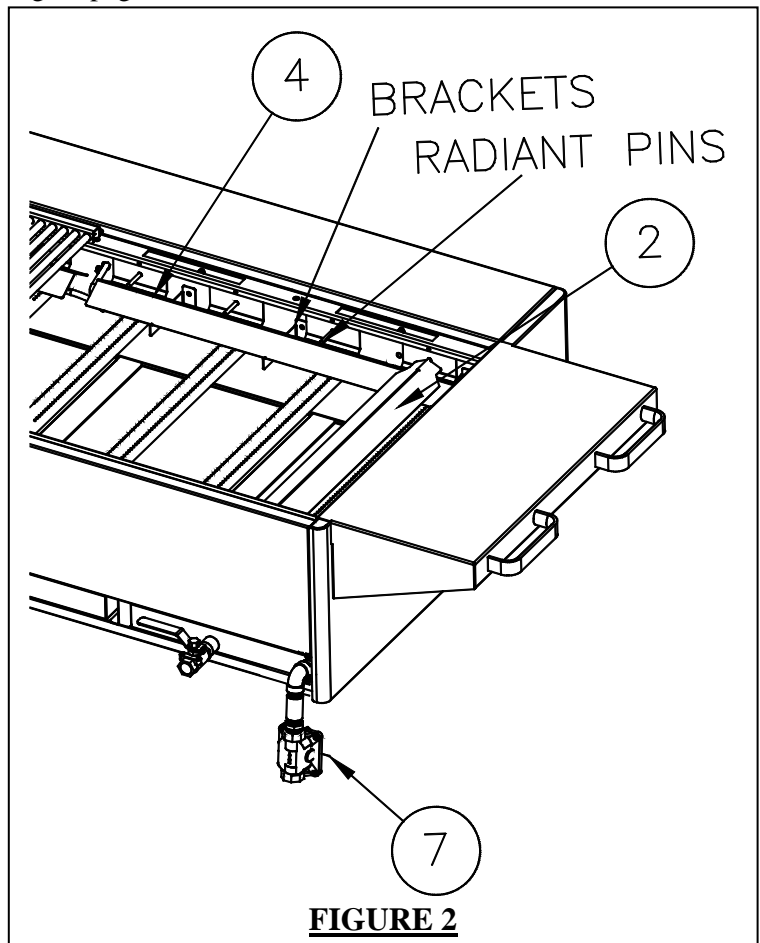

FIGURE 2
- E. Remove water tub(s) (5) from cabinet frame (3) and set aside.
- F. Lift cabinet frame assembly (3) from pallet and set aside.
- G. Remove any strapping or packaging tape that may have been used to hold the burner radiants (2), and runner tube cover(s) (4) in place.
I. Place runner tube cover(s) (4) on the runner tube support bracket(s) to cover the runner tube(s), see figure 2. Slots in the runner tube cover(s) (4) will fit over the brackets and the igniter spark rod.
J. Place the radiant (2) on their front and rear support pins over each burner. Slide water tub(s) (9) into frame assembly (6).
K. Install the water tub(s) (5) by sliding them into the cabinet frame, they should rest on the floor of the assembly.